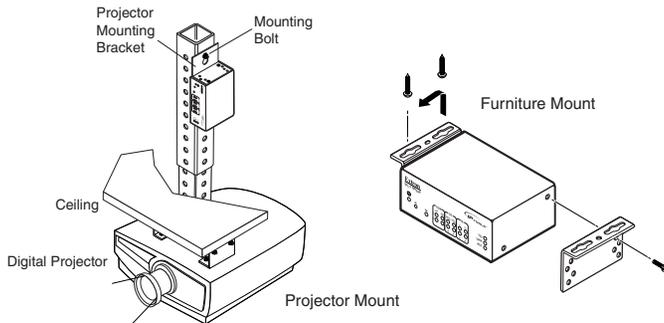

Figure 2-3 — Mounting the IPL T SFI244
1. Attach the mounting brackets to the interface with the machine screws provided (figure 2-3).